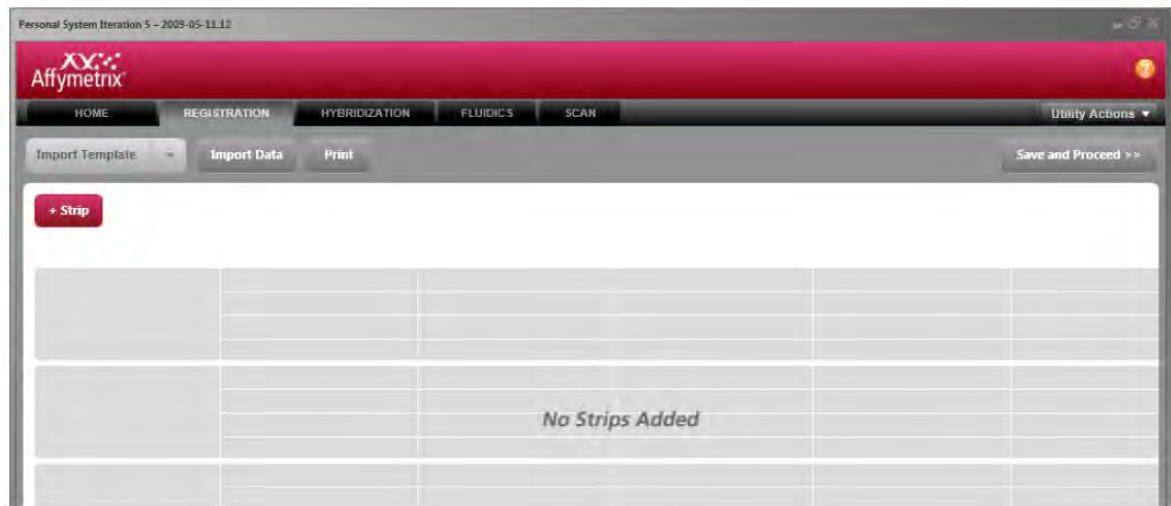

Figure 11 Registration tab of GeneAtlas™ Instrument Control Software.
2. Click the **Registration** tab (Figure 11).